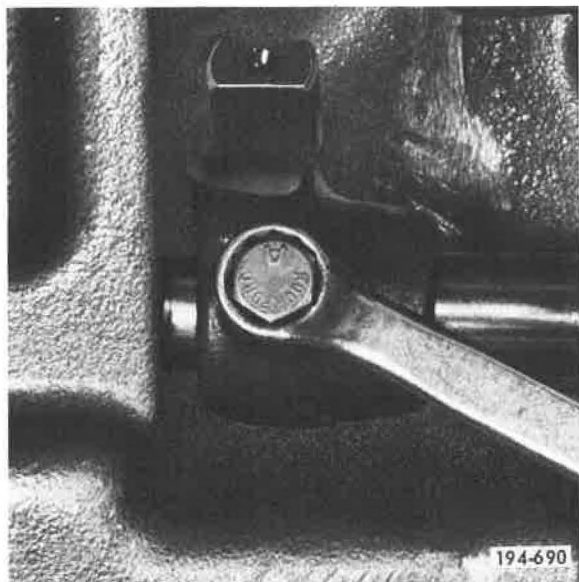

Figure 170. Removing Setscrew
2. Remove reverse shifter setscrew. See Figure 170.